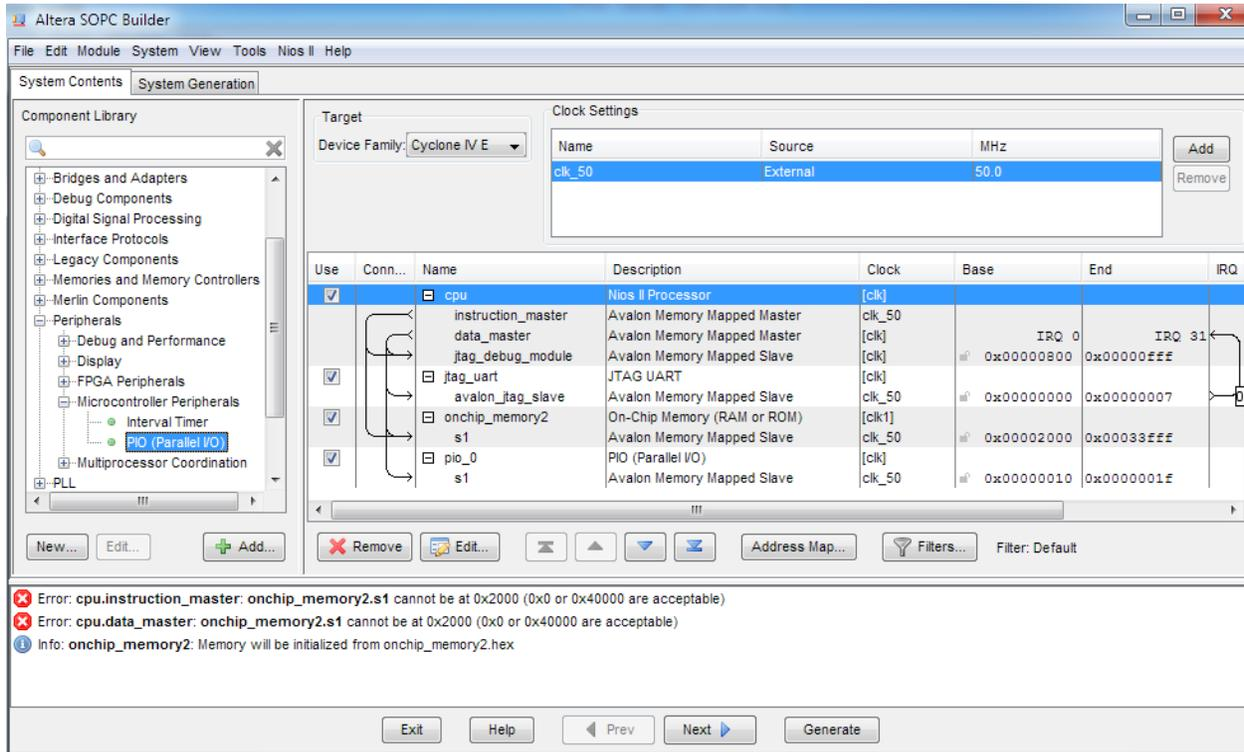

Figure 1-32 PIO
20. Click **Finish** to close PIO box and return to the window as shown in Figure 1-32.